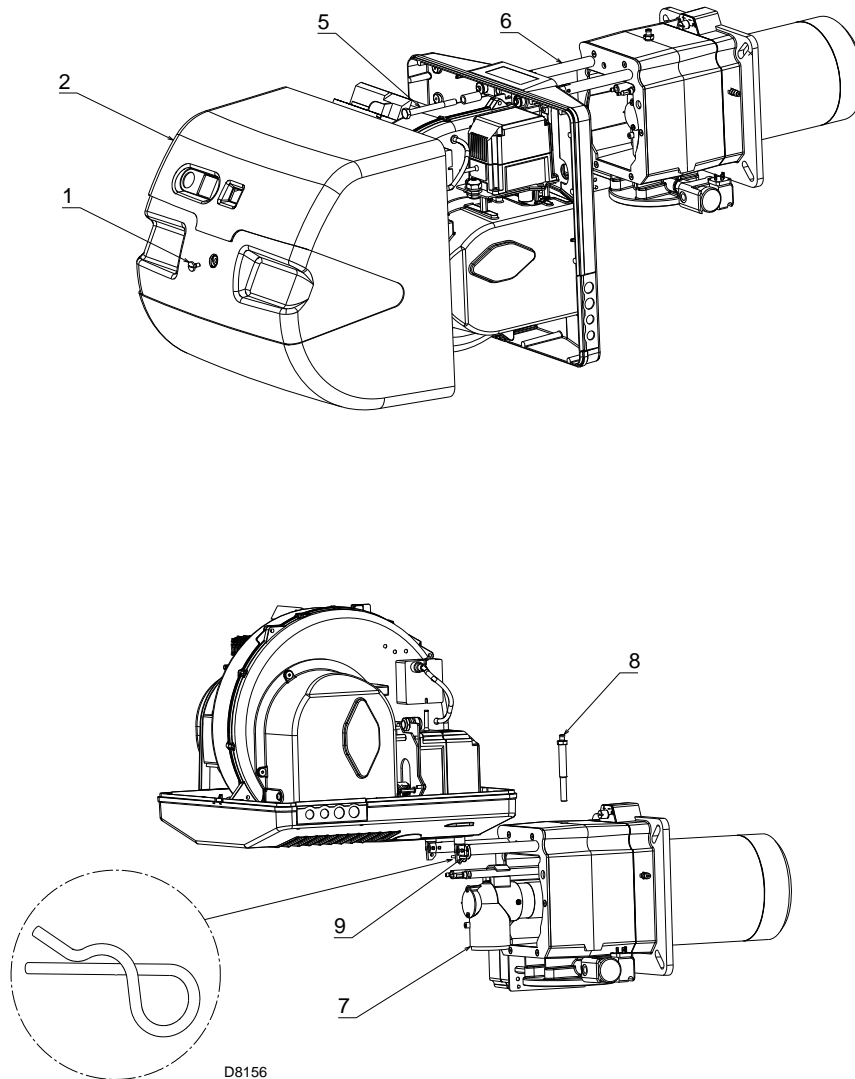

Fig. 41
Make sure that the gas outlet holes for the start-up, on the combustion head distributor, are free of dirt or rust deposits. If in doubt, disassemble the elbow (Fig. 41 at page 52).
- Loosen the screws 1)(Fig. 41) and remove the cover 2).
- Remove the screw 5)(Fig. 41) e la copiglia 9) and split pin 9) and pull back the burner on the guides 3) by about 100 mm.
- Turn it as in Fig. 41 and insert the split pin 9) into the hole of one of the two guides so that the burner remains in that position.
- Remove the split pin 9)(Fig. 41) and push the burner until it is approx. 100 mm from the pipe coupling.
- Replace the screws 5)(Fig. 41) and split pin 9) and carefully pull the probe and electrode cables outwards until they are slightly taut.